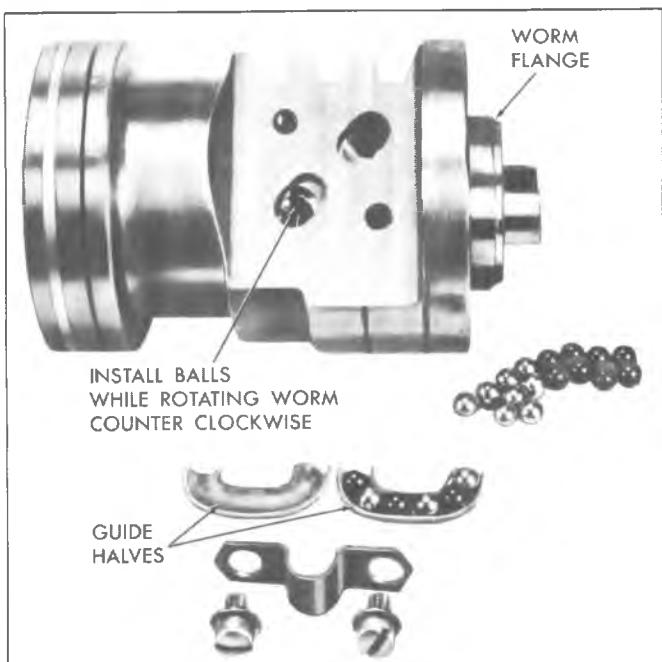

Fig. 48-Installing Balls in Rack-Piston
3. Turn the worm until the worm groove is aligned with the lower ball return guide hole (fig. 48).